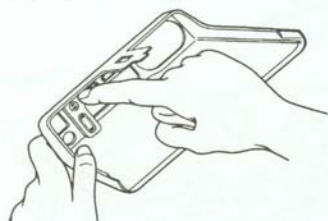

Figure 1-4. Insert Keypad
1. Insert keypad into housing and press as shown in Figure 1-4. Check to see that all five buttons on keypad are secured and protruding properly through the housing.